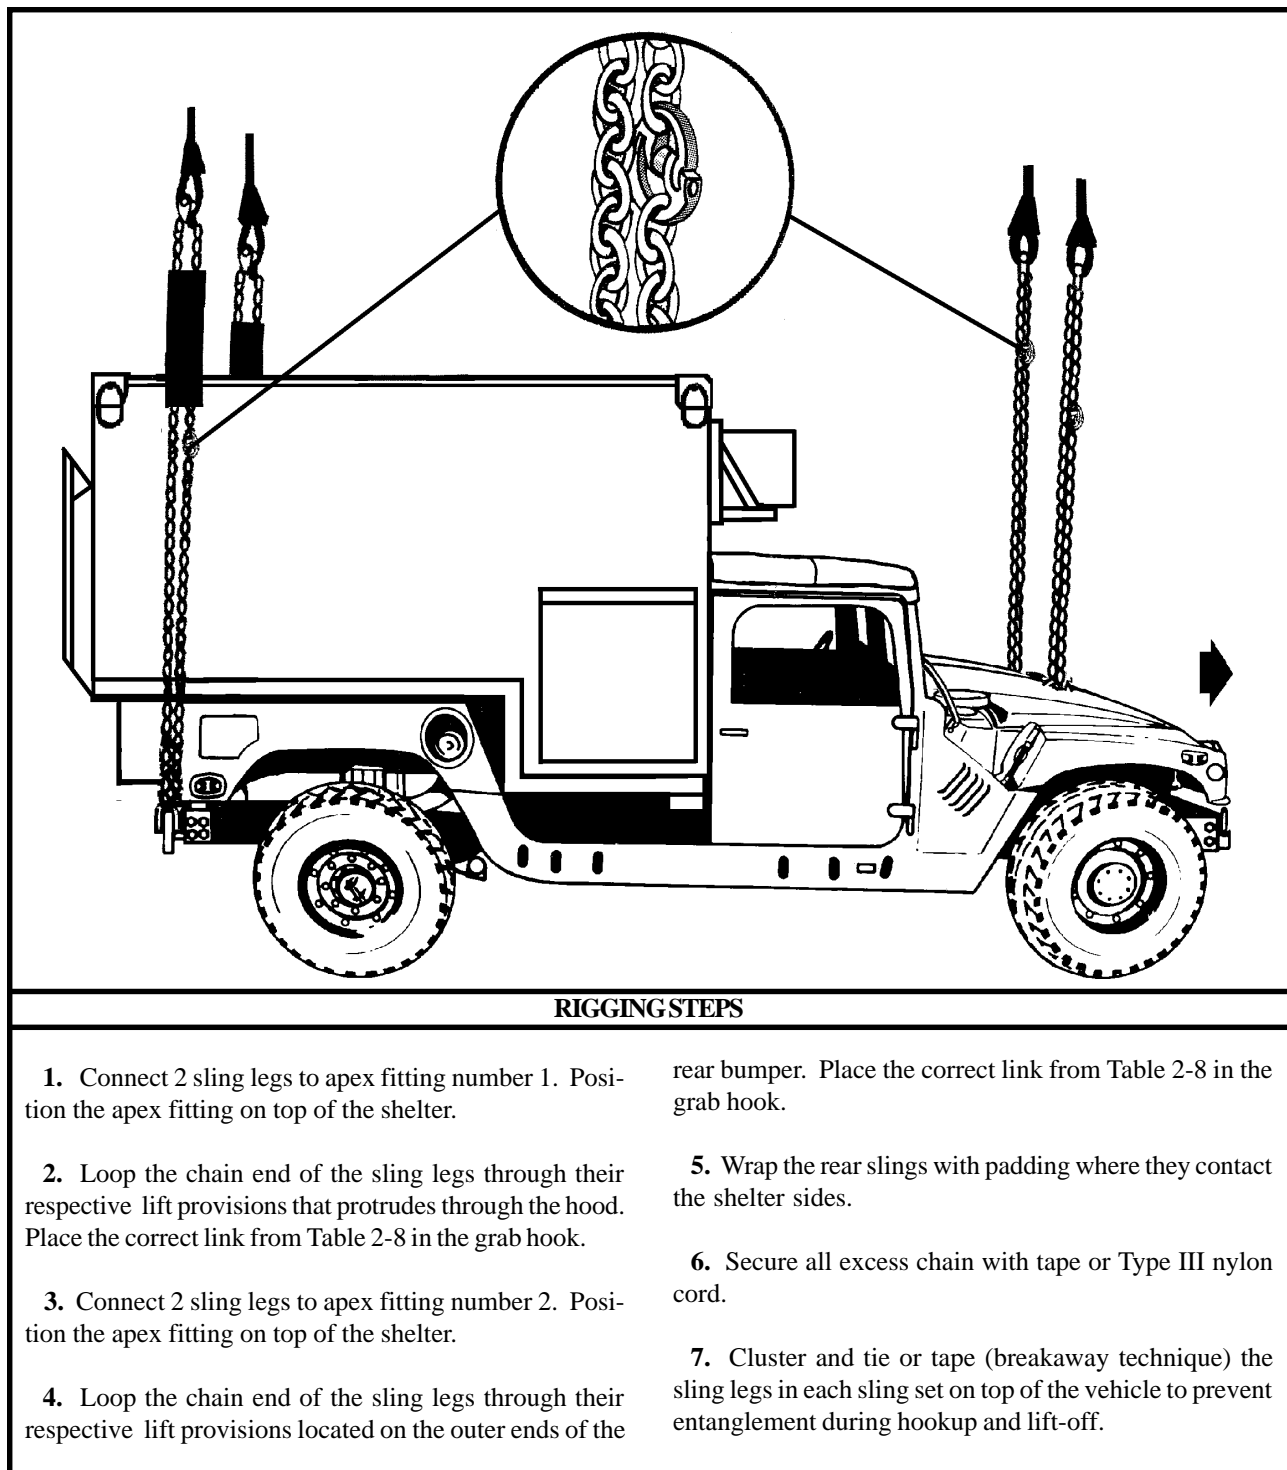

Figure 2-7. Gitchner Shelter Mounted on the M1097/M1113
(2) **Rigging.** Rig the load according to the steps in Figure 2-7 and using the link counts in Table 2-8.
(4) **Derigging.** Derigging is the reverse of the preparation and rigging procedures in steps d (1) and d (2).